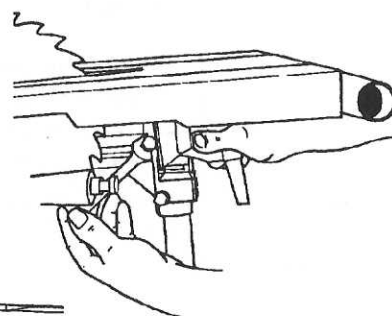

Fig. B-65
28. To adjust the 0° stop, simultaneously depress the table stop pin and use a 1/2" wrench to adjust the stop bolt. The stop bolt should just contact the side of the stop pin. Once the stop bolt is adjusted, the stop pin will "snap" back when the tilt lock is tightened. See Fig. B-65.